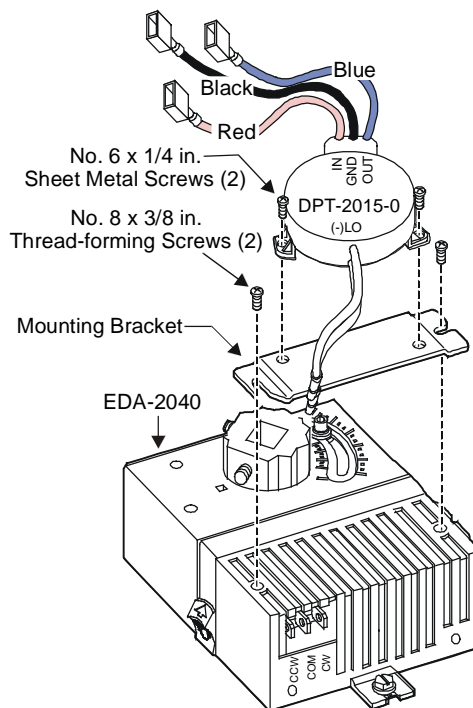

Figure 2: Using the Mounting Kit with the DPT-2015 on an EDA-2040
2. Attach the DPT-2015 to the mounting bracket with the two No. 6 x 1/4 in. sheet metal screws as shown in Figure 2, using a No. 2 Phillips screwdriver.